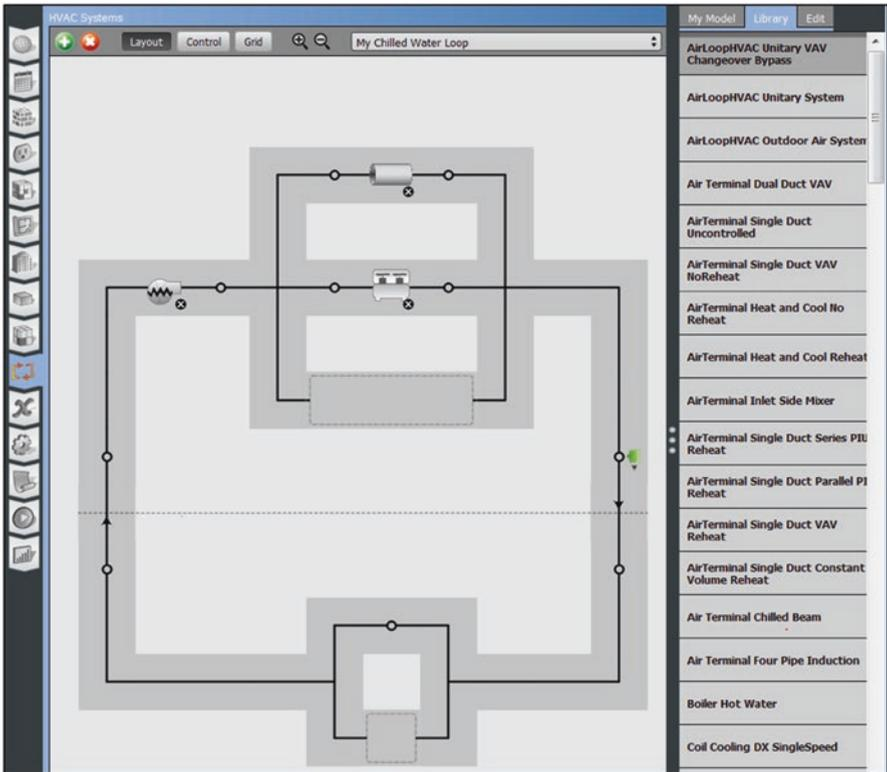

Fig. 5.44 Chilled Water Loop with initial components
1. Add Objects to your Loop by dragging them from the **Library** onto Nodes as shown in Fig. 5.44: